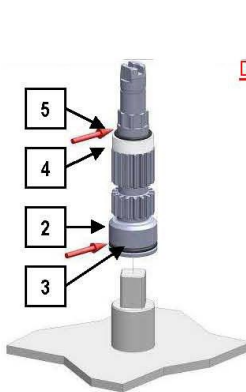

Fig.13
2. Place the pinion (2) on a support with a square of the same size of the female attachment. Make sure that the pinion is provided with lower O-ring (3), spacer (4) and upper O-ring (5). Lubricate the O-rings (see arrows fig. 13). The recommended lubricating grease is "KLUBER" TRIBO STAR 1EP"